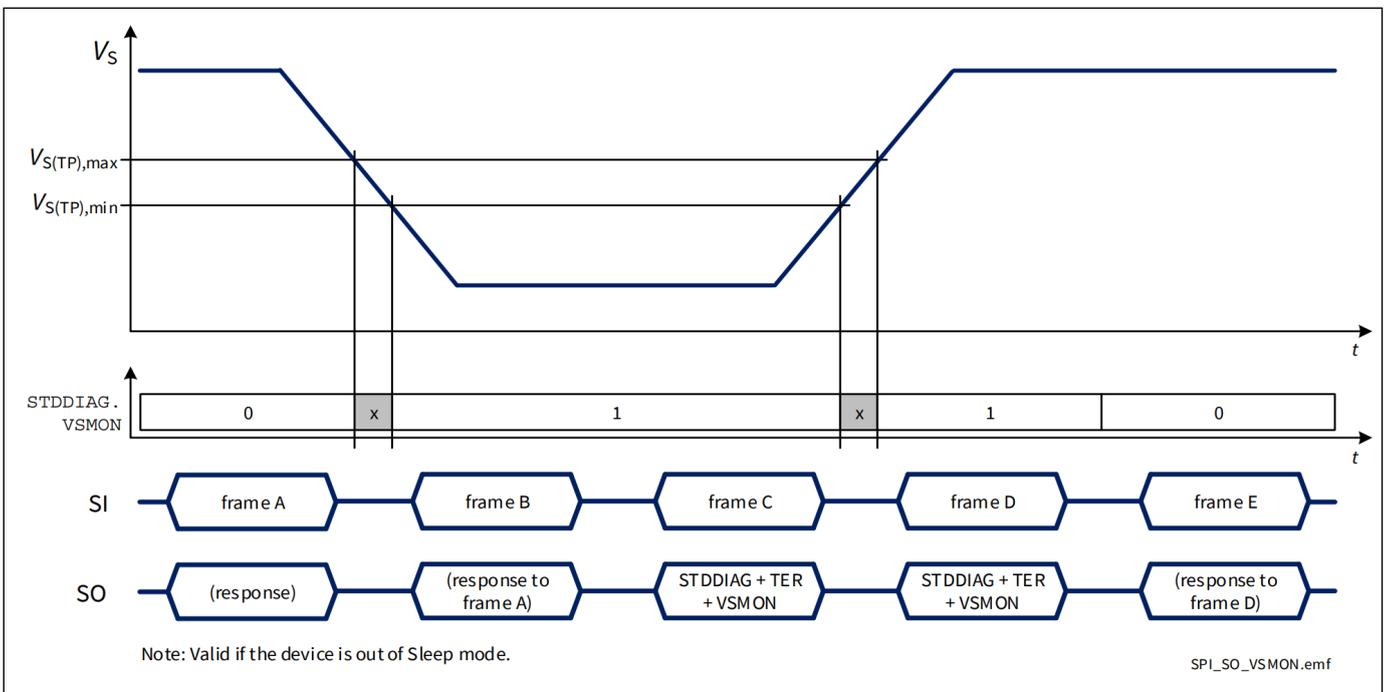

Figure 45 SPI response in case of voltage drop on battery
- 当 $V_S < V_{S(TP)}$ 且 `DCR.MUX` \neq 111，如图 45 所示